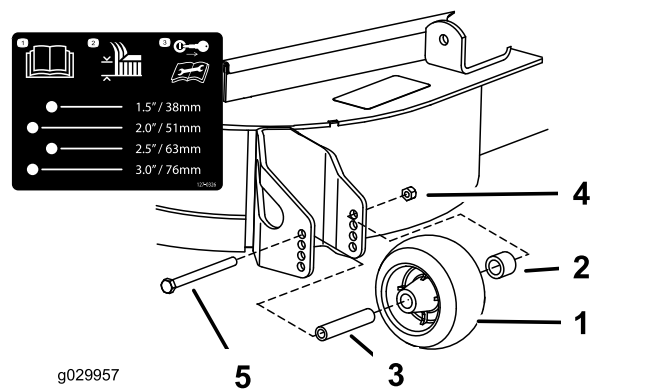

Figure 32
3. Adjust the anti-scalp rollers as shown in Figure 30, Figure 31, and Figure 32.